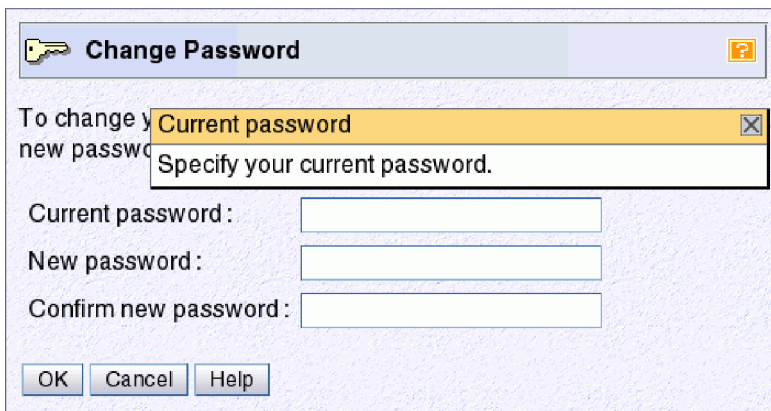

Figure 4. Context sensitive help enabled
- Once context sensitive help is enabled, the blue **i** in the upper right corner of the task window changes to an orange **?**. As you place your cursor over the input areas or selectable fields, the abbreviated help text appears in a small box within the task window (see Figure 4). Using the Tab key also allows you to view the help for each field. As you tab to each field, context sensitive help is displayed.